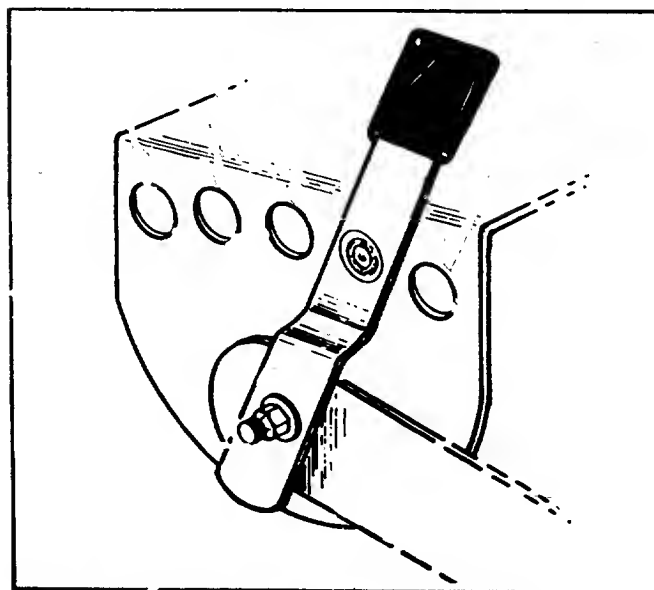

FIGURE 18. WHEEL HEIGHT ADJUSTER 34" DECK
f. **PTO Lever.** The PTO lever engages the deck belt when it is moved forward. Moving it to the rear disengages the deck belt. The engine will not start unless the PTO is in the OFF position as shown in figure 18.
k. **Cutting Height 34" Cut Deck.** Set the cutting height by setting both wheel height adjusters in the desired position and moving the lift lever all the way forward. See figure 18.
Step 7. Set the desired cutting height. See figures 18 and 19.